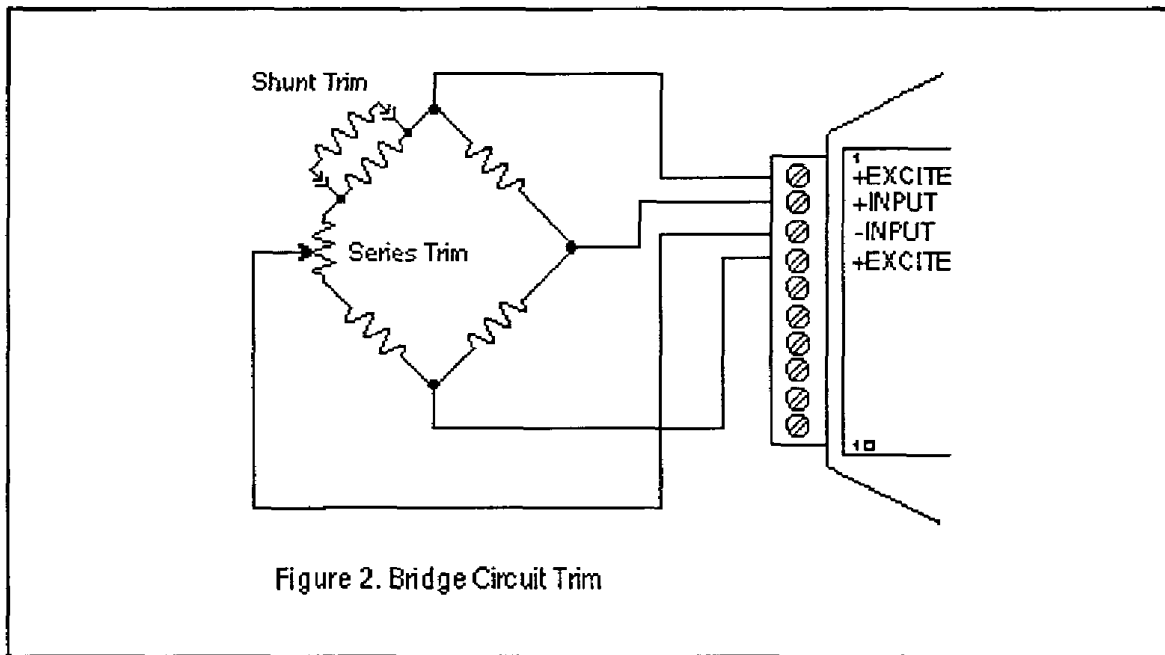

Figure 2. Bridge Circuit Trim
To perform an initial offset trim, attach the bridge unit to the module (as shown in Fig. 1). Clear out any previous offset trims with the Clear Zero (CZ) command. Apply the desired zero condition to the bridge sensor. For a Strain Gage Bridge this would be the relaxed or unstrained condition. For load cells, the zero condition could include any tare weight due to a weighing platform or other attachments that would affect the zero balance. Obtain an initial reading using the Read Data (RD) command. The output data will indicate the total offset of the system. Subtract the offset value from the usable input range of your module, either ± 60 mV or ± 120 mV. The result is the maximum usable "input overhead". If the overhead is not sufficient for your application, the bridge must be trimmed externally to lower the offset to an acceptable value. The bridge may be trimmed with a small series resistance or a large shunt resistance to the appropriate leg of the bridge (as shown is Fig. 2). If the initial offset is acceptable, the offset may be trimmed with the Trim Zero (TZ) command.